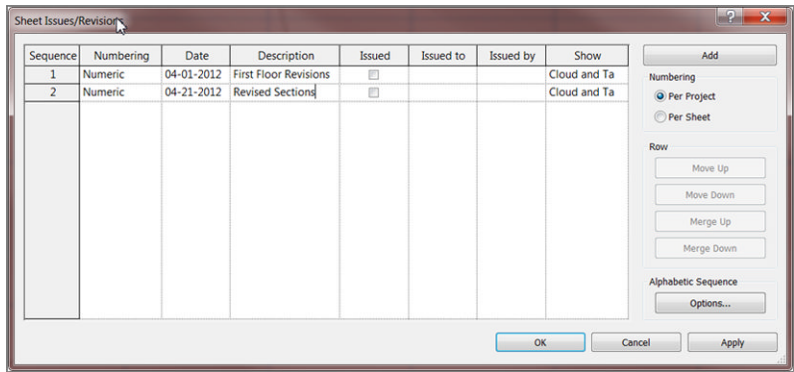

FIGURE 14.18: The Sheet Issues/Revisions dialog box
1. On the View tab, click the Sheet Issues/Revisions button on the Sheet Composition panel. The dialog box shown in Figure 14.18 opens.
4. Click the Add button (see Figure 14.18).
6. For the description, enter **Revised Sections** (again, see Figure 14.18).